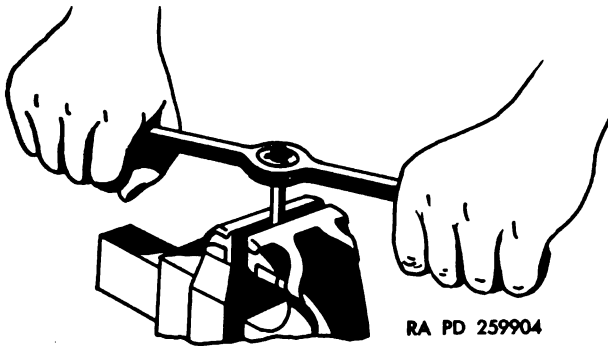

Figure 283. Using a die and diestock.
a. General. The general procedure for cutting threads by hand is as described in (1) through (7) below.
- (1) Make certain the work to be threaded is clean and free from burrs.
- (2) Secure the work firmly in a vise (fig. 283).